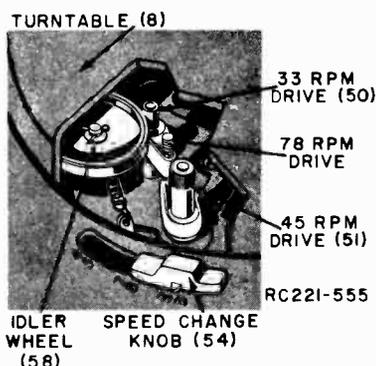

Figure 3. Motor, Showing 3 Drives.
(See Figures 3, 4 and 5)
The changer operates as follows: The turntable is driven by the rubber tired idler wheel (58) on the three speed motor. The turntable speed (78 RPM, 33 RPM or 45 RPM) is determined by the diameter of the drive shaft that drives the idler wheel. See figure 3. The 78 RPM drive shaft is a part of the motor armature. The 33 RPM and 45 RPM drive shafts are moved in and out of position mechanically when the speed change knob is moved.